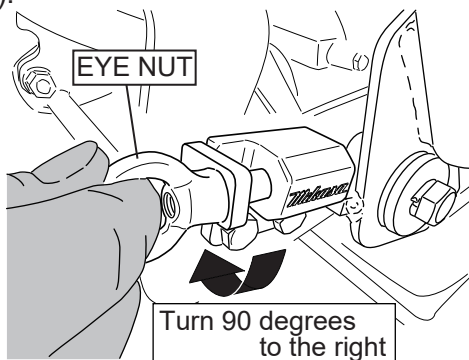
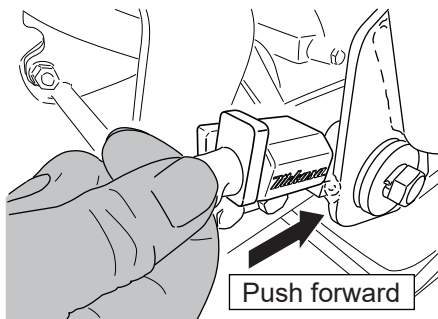

Fig.8
Fig.9
- a. Turn the eye nut of handle stopper to the right 90 degrees (fig. 8), then push it (fig. 9).